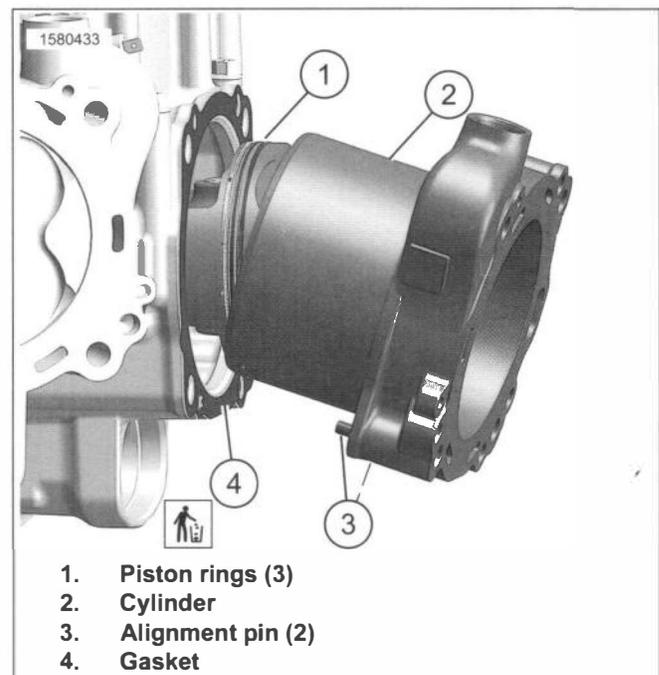

Figure 4-50. Cylinder Remove and Install
1. See Figure 4-50. Remove cylinder (2) from crankcase.
2. Discard gasket (4).
- a. See Figure 4-50. Install **new** gasket (4) aligning with dowel pins (3) at bottom of cylinder (2).